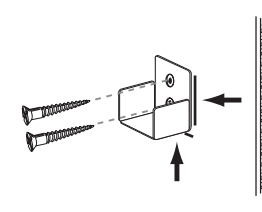

FIG. 1.7
- Remove shelf and place bracket on lines drawn to mark screw hole location. Attach bracket using #8 1-1/2" screws (Fig. 1.7). Use supplied plastic wall anchors if no stud is present.